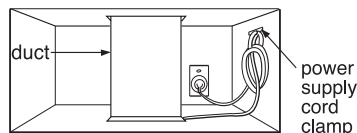

Figure 33
6. Use the power supply cord clamp to bundle the power supply cord. Install the power supply cord clamp, using a screw as shown in Figure 33, to the inside of the cabinet.